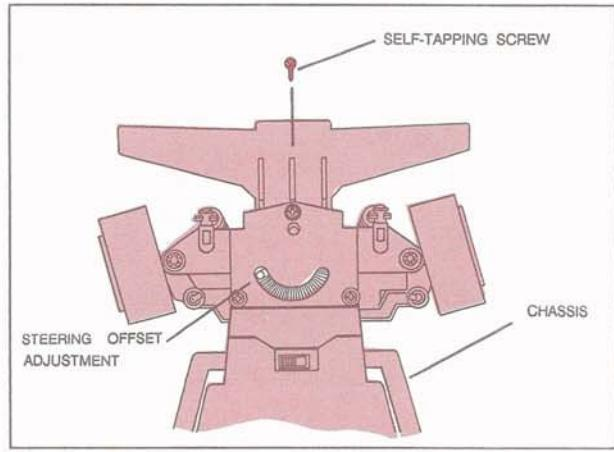

FIG. 85
5. Gently fit the body and chassis together and secure them by inserting (1) H1 self-tapping screw through the mounting hole in the front of the chassis (See Fig. 85).
- 4. If the car fails to travel in a straight path when the transmitter's steering wheel is NOT being turned, adjust the steering actuator's retaining spring by moving the white plastic lever under the front of the chassis. The normal direction of travel can be offset to the (R) right or (L) left by varying degrees (refer to Fig. 85).
- 5. The operation of the drive motor can be altered between HIGH and LOW ranges by adjusting the small switch on the rear of the drive motor housing. Simply select the (H) or (L) setting for the switch.